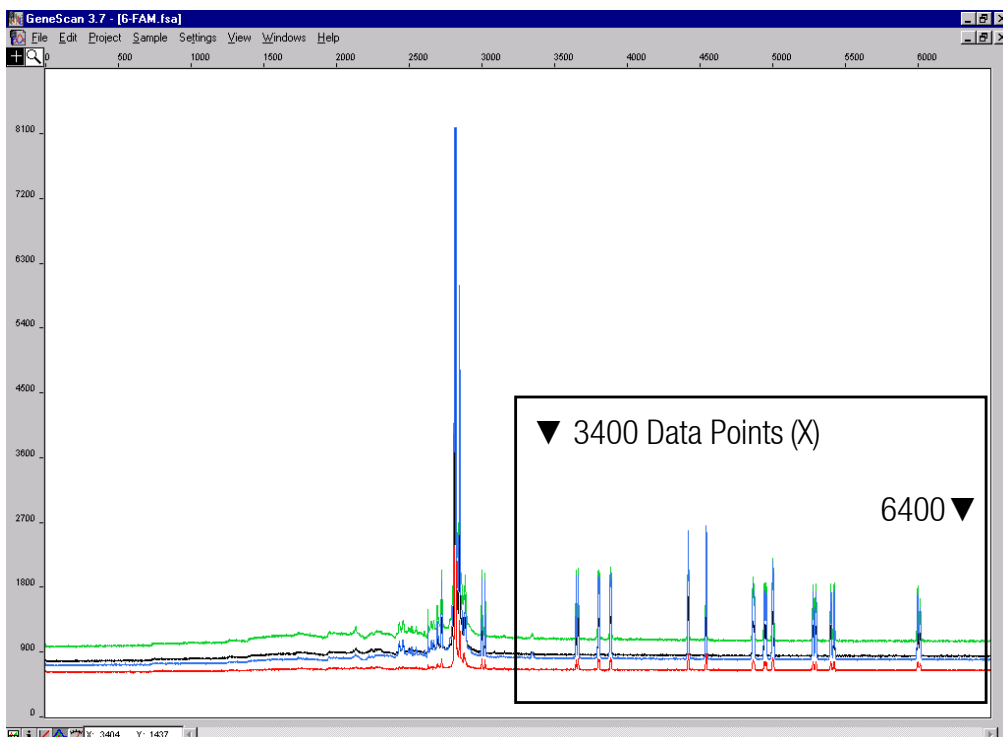

Fig. 2 Electropherogram with Raw Data of the Matrix Standard 6-FAM
- Review the matrix samples for a flat baseline beyond the primer peak. There should be at least five peaks with peak heights about 400-4000 (Y) in every matrix sample (optimal range: 1000-3000), as shown in Fig. 2